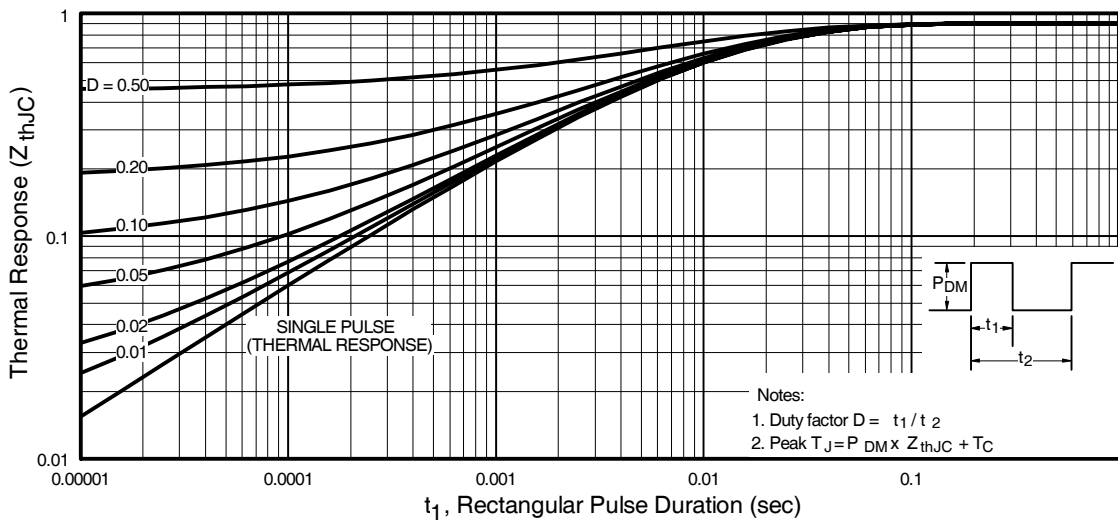

Fig 11. Maximum Effective Transient Thermal Impedance, Junction-to-Case
- ① Repetitive rating; pulse width limited by max. junction temperature. (See fig. 11)
- ② Starting $T_J = 25^\circ\text{C}$, $L = 194\mu\text{H}$